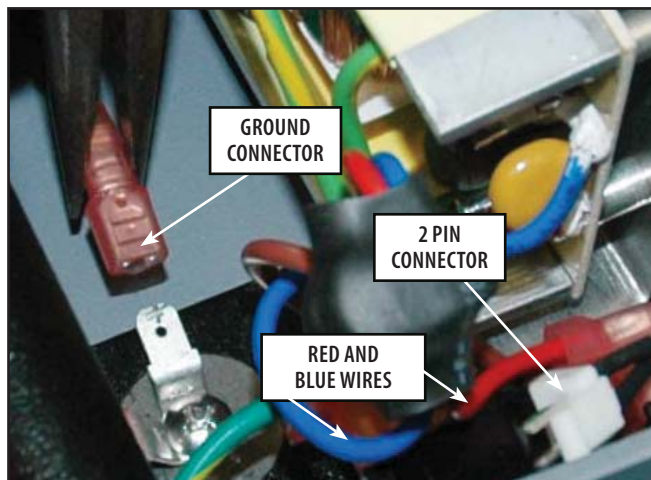

FIGURE 6.7
2. Disconnect the 2 pin Power Harness from the Power Supply Extension Harness. **Refer to Figure 6.7.**
3. Using Needle Nose pliers, disconnect the ground wire. **Refer to Figure 6.7.**
4. Using Needle Nose pliers disconnect the red wire from the Rocker Switch and the blue wire from the IEC Connector. **Refer to Figure 6.7.**